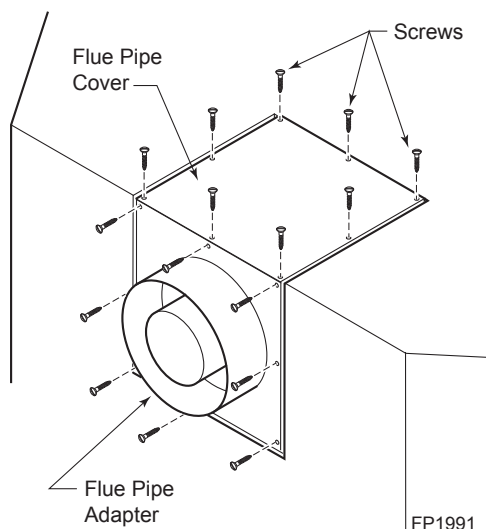

**Figure 8 -
1. Remove the eight (8) screws securing the flue pipe adapter to the fireplace body. *Figure 8*
3. Remove the eight (8) screws securing the flue pipe cover to the top of the intake box and remove the cover and gasket. *Figure 8*